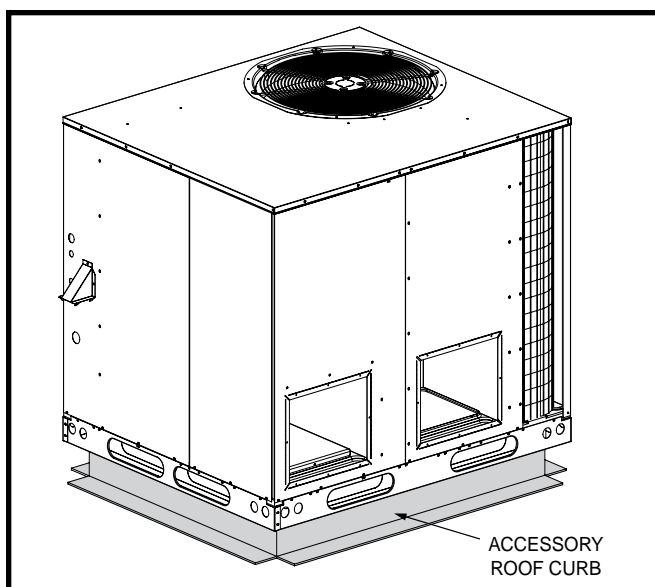

Figure 3. Roof Top Installation
- The appropriate accessory roof curb (Figure 3, page 10) must be installed prior to unit installation. The roof curb must be square and level to ensure proper condensate drainage. **Please follow all instructions provided with the kit.**